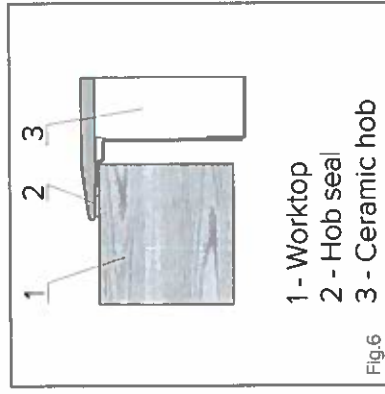

Fig.6
2. Make sure that the worktop is clean and dust free and insert the hob into the cut-out opening. Press the hob firmly into place so that the seal connects with the worktop (Fig. 6).